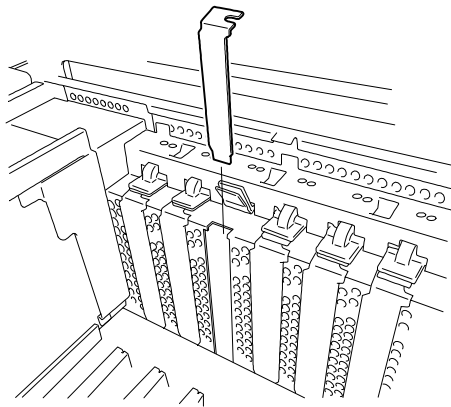

Figure 4-40. Removing the Expansion Slot Cover
9. Remove the expansion slot cover, see Figure 4-40.